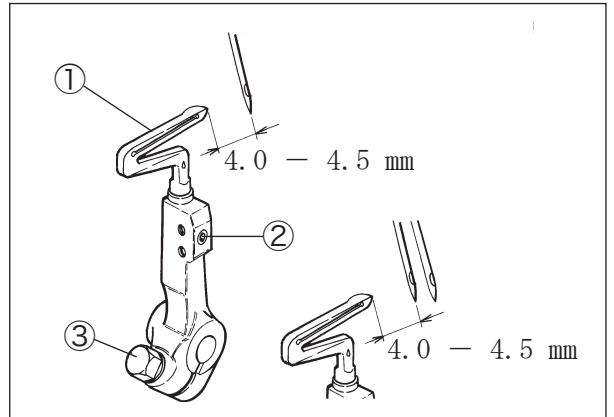

Fig. 6-25
After adjusting the front-and-rear position of the lower looper, be sure to check the distance between the needle and the lower looper and tighten the screw ③ in Fig. 6-25 .